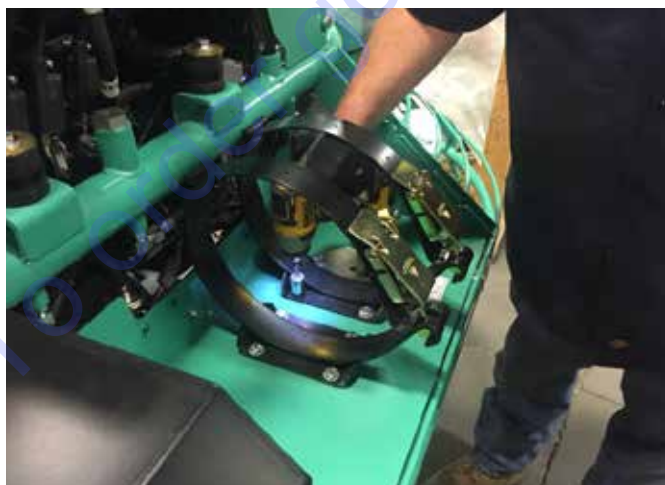

Figure 32. Reattach LPG Tank Straps
33. Reattach LPG tank straps and fasten securely (Figure 32).